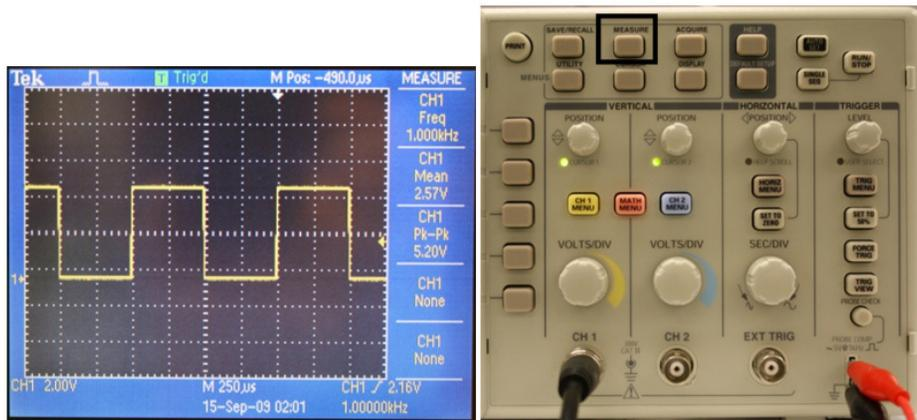

Figure 12: Configure the menu items to automatically measure frequency, mean voltage, and peak-to-peak voltage.
- Press the uppermost menu button. Then change the “Source” to “CH1” and the “Type” to “Freq.” As shown in Figure 12, we have configured 3 of the menu items to automatically measure frequency, mean voltage, and peak to peak voltage.